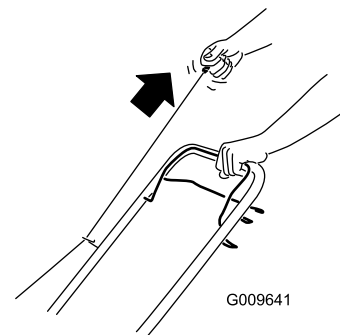

Figure 11
2. Pull the recoil start handle (Figure 11).
**Note:** When you pull the recoil start handle, pull it lightly until you feel resistance, then pull it sharply (Figure 11). Allow the rope to return to the handle slowly.